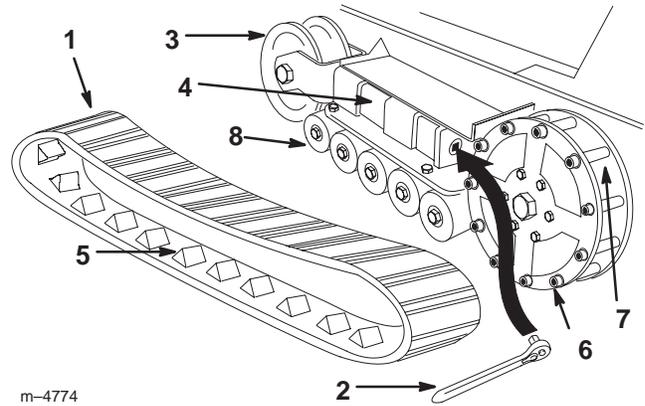

Figure 31
- Push the tension wheel toward the rear of the unit to move the fork tube against the frame (Fig. 31). (If it does not touch the frame, continue turning the tensioning screw until it does.)
- When the track is off of the tension wheel, remove it from the drive sprocket and road wheels (Fig. 31).
- Beginning at the drive sprocket, coil the new track around the sprocket, ensuring that the lugs on the track fit between the spacers on the sprocket (Fig. 31).
- Push the track under and between the road wheels (Fig. 31).